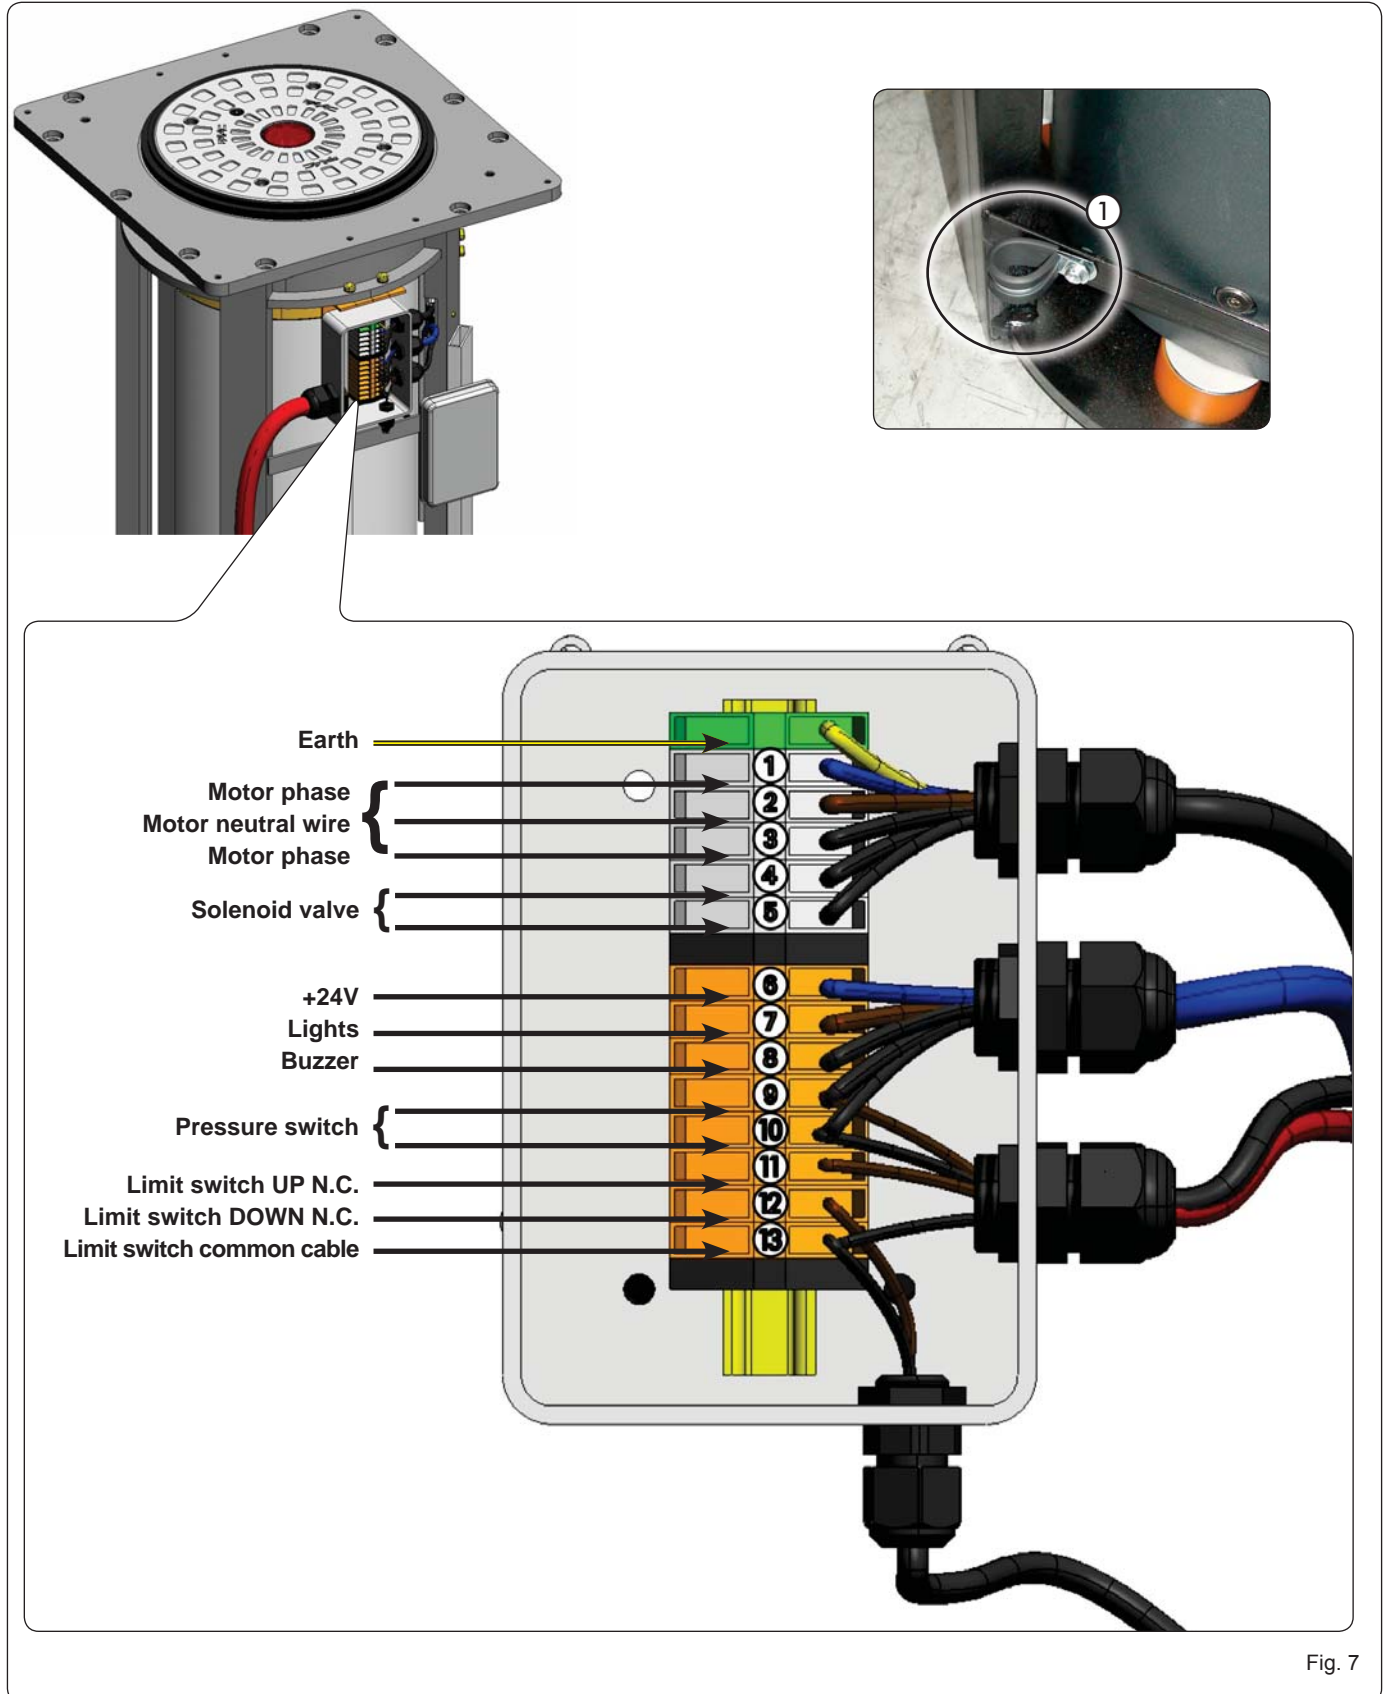

Fig. 7
For the connection of the bollard to the control unit, use a multi-pole cable, type **FG7OR-0.6/ kV- 6G 1.5 (16 cables of 1.5mm²) with max. length of 50 m**. This cable must be laid inside a sheath ø 45mm, secured to the cable clamp in the bottom part of the frame (fig. 7 ref. ①) and must come out of the pit by 1,2 m for the version H600 and by 1,6 m for the version H800. Perform the electric wiring in the junction box on the bollard side, as shown in the figure below.